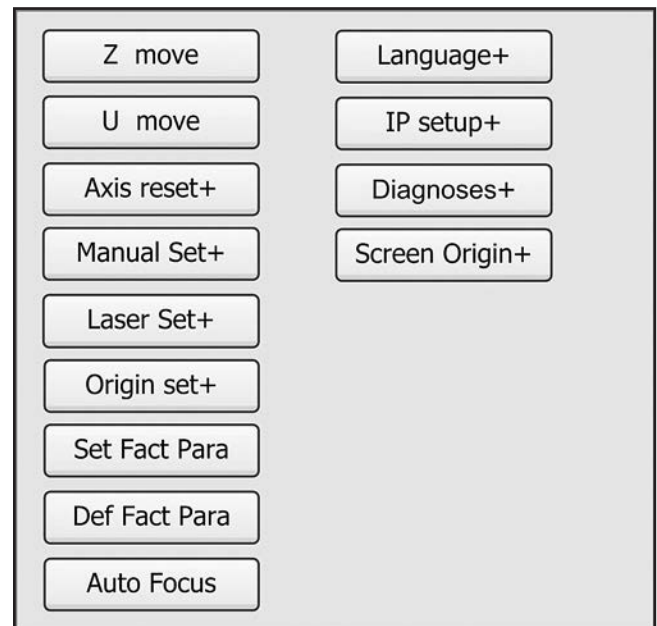

Figure 45. Example of Z/U menu screen.
4. Press Z/U button on control panel to display Z/U menu screen (see **Figure 45**).
4. Press Z/U button on control panel to display Z/U menu screen, then use arrow nav buttons to highlight "Z move" (see **Figure 45**).
7. Use arrow nav buttons to highlight "Z move" (see **Figure 45** on **Page 38**).